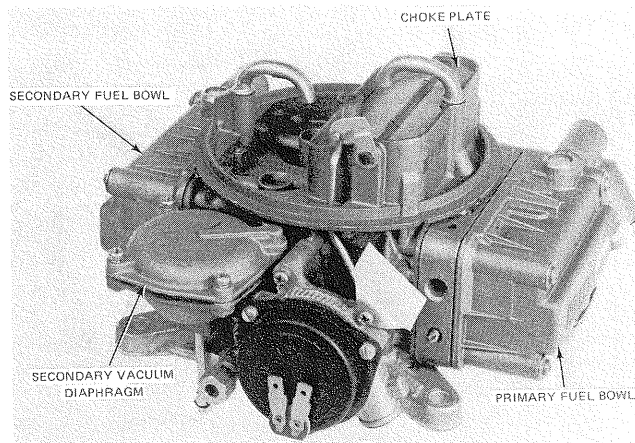

FIG. 22 Choke Housing Side Model 4160, Internally Adjusted Needle and Seat
3. Remove secondary vacuum diaphragm assembly from carburetor body (if used) (Figure 22).